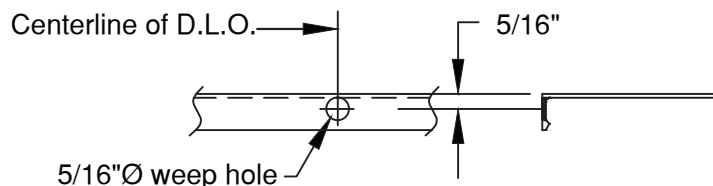

Figure 6
- 1.6 Drill 5/16" diameter weep holes at centerline of DLO in face cap in intermediate horizontals only. **SEE FIGURE 6.**